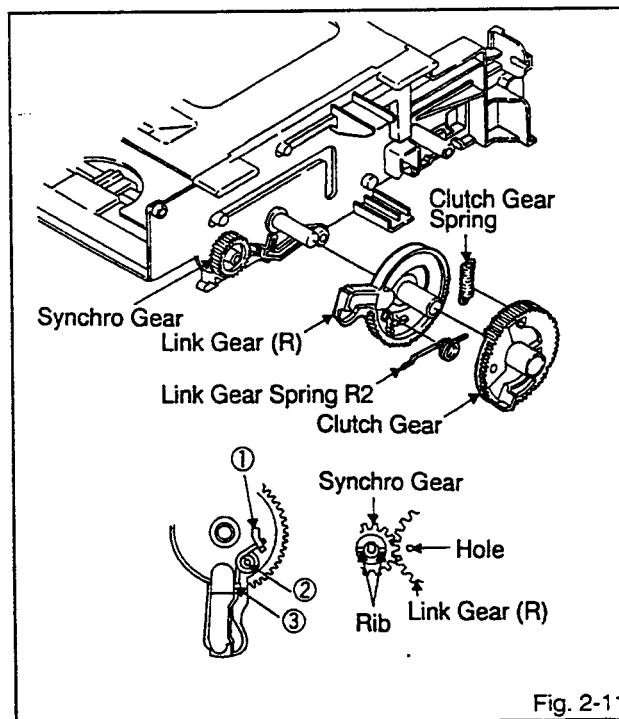

Fig. 2-11
2-11: LINK GEAR (R) / CLUTCH GEAR (Refer to Fig. 2-11)
2. Remove the Link Gear (R) and Clutch Gear.
1. When installing the Link Gear Spring R2 to the Link Gear (R), proceed in order ①, ②, ③ as shown in Fig. 2-11.
2. When installing the Link Gear (R), match the position of the Link Gear (R) so that the line over the two ribs on the Synchro Gear goes through the marking hole on the Link Gear (R).